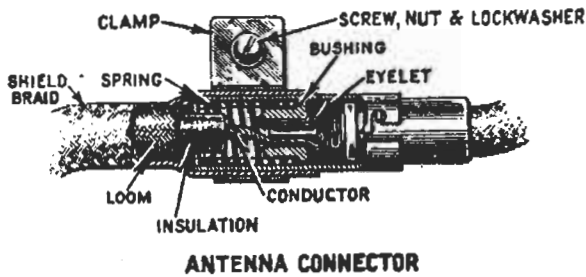

FIG. 18. The antenna connector is longer in diameter than a fuse holder and is in the shielded antenna lead.
**Antenna Connections.** Some receivers have sockets for plugging in the antenna lead-in, while others use a short lead and a coupler. Be careful about the latter—it may look like the storage battery lead. However, the antenna will *always* be shielded, and the connector is usually a short affair, frequently with a fastening clamp like the one in Fig. 18.